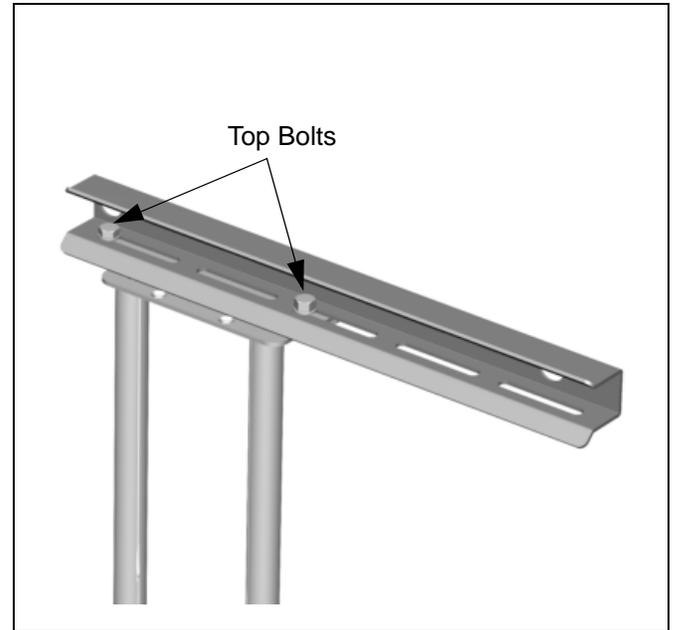

Figure 17: Adjust Swing Arm- Left Of Center
2. Remove four bolts (two on the top and two on the bottom) securing the swing arm assembly to the top and bottom mounting brackets (See Figure 17:).
- For left of center, see Figure 17.